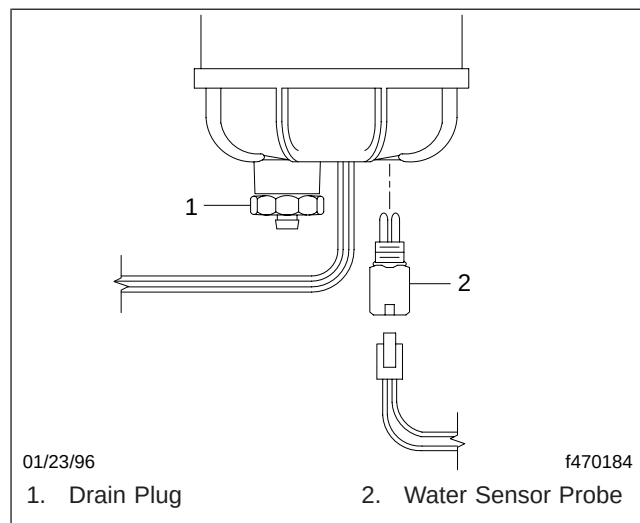

Fig. 1, Water Sensor Probe
5. Disconnect the water sensor wiring harness from the water sensor probe. See Fig. 1.